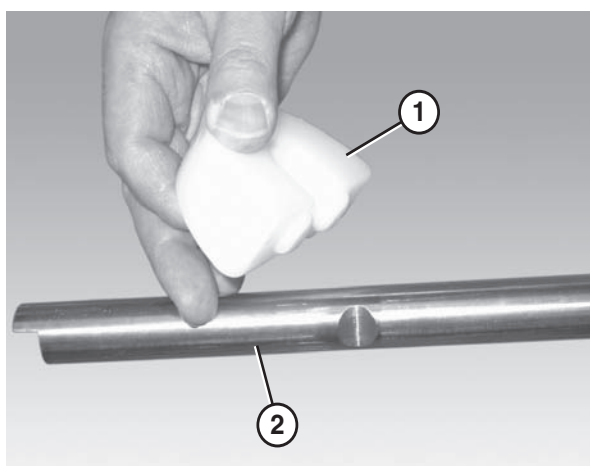

Figure 38
1. Attach the chain return shoes (**Figure 38, item 1**) to the return shaft (**Figure 38, item 2**).